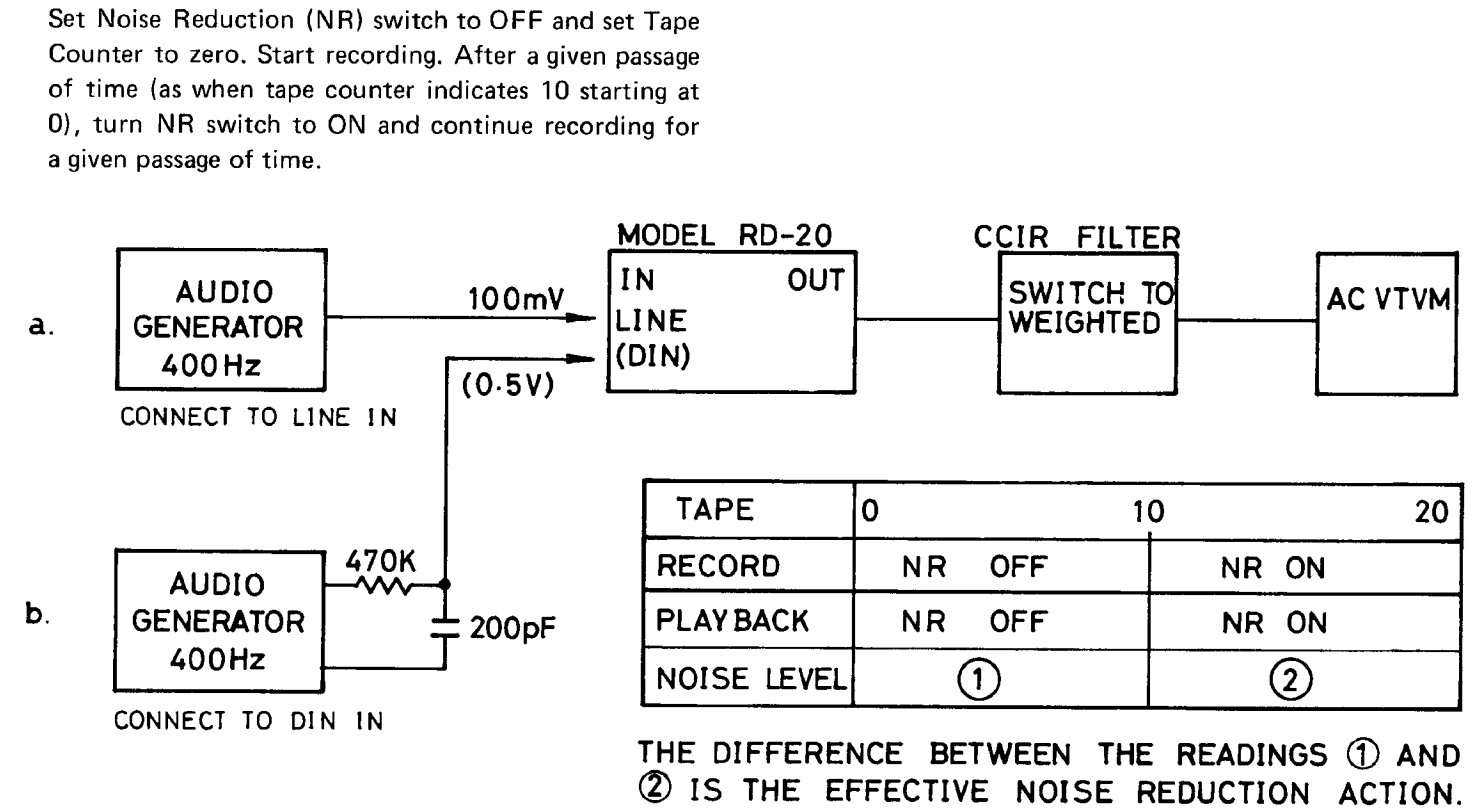

FIG. 8. DOLBY NR CHECK
- A. Connect AC VTVM to LINE-OUT terminal through CCIR Filter, and connect Audio Generator to LINE-IN terminal. See Fig. 8.
- B. Apply 400Hz (sine wave), 100mV signal to LINE-IN terminal from Audio Generator. (Note: Using DIN input terminal, connect Audio Generator as shown in Fig. 8 and adjust output of Audio Generator so that input terminal voltage is 0.5V.)